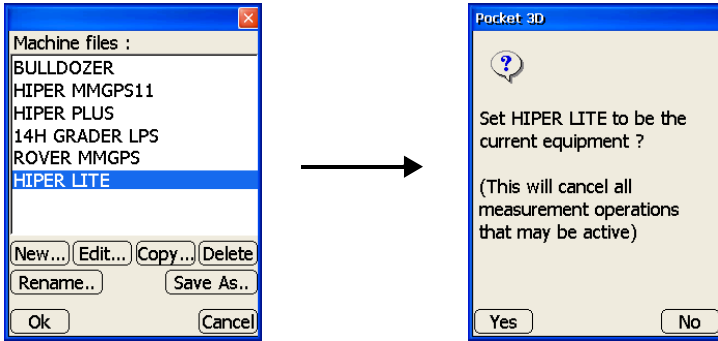

Figure 2-46. Select Equipment Configuration
7. On the *Equipment configuration* dialog box, select the new or edited configuration file, and press **Ok** to continue (Figure 2-46 on page 2-31).
8. At the **verification** screen, press **Yes** to apply the configuration as the current equipment (Figure 2-46).